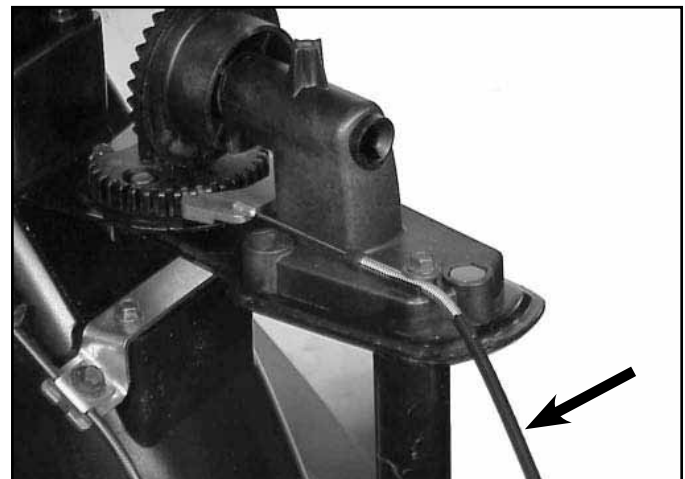

Fig 085
2. Remove the cover over the chute gears. Free the chute latch cable from its clamp and disconnect the chute latch cable (Fig. 085).